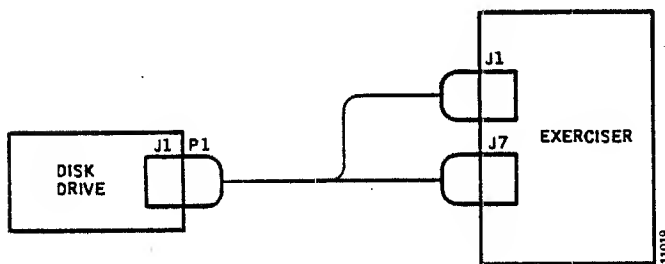

Figure 2-1. Exerciser Interconnection Diagram
2. Place the exerciser adjacent to the disk drive, and install the interconnecting cable between the exerciser and connector J01 on the card cage assembly of the disk drive. See Figure 2-1.